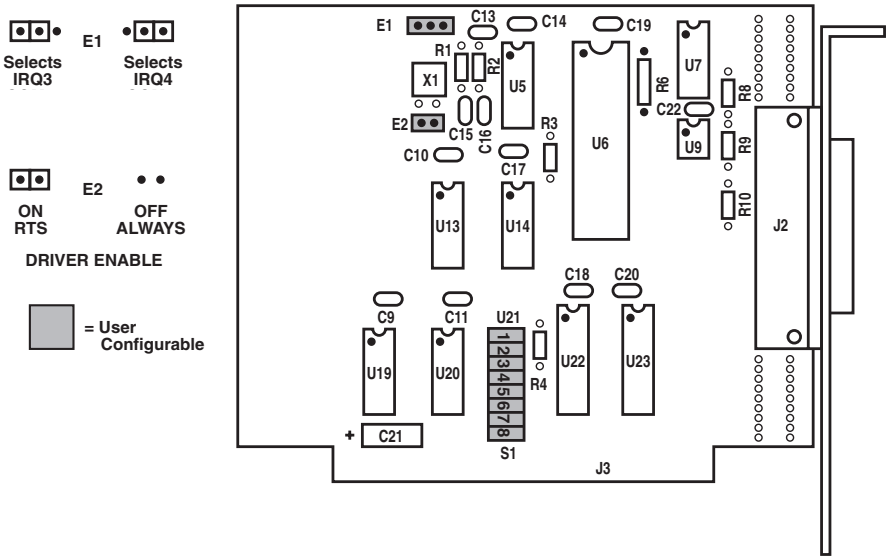

Figure 3-1. Board layout of the PC↔422/485 Serial Interface.
Follow these steps to install the card (refer to Figure 3-1 below):
2. If the card is using the port address COM1: or COM2:, get a copy of a communication-software package such as Crosstalk[®], SmarTerm[®], or ProComm[®] that can emulate a dumb terminal. Install it on the card's PC. (If you've set the card to use one of its nonstandard addresses—see **Step 1** and **Figure 3-1** in **Chapter 3**—special software will again be necessary.)